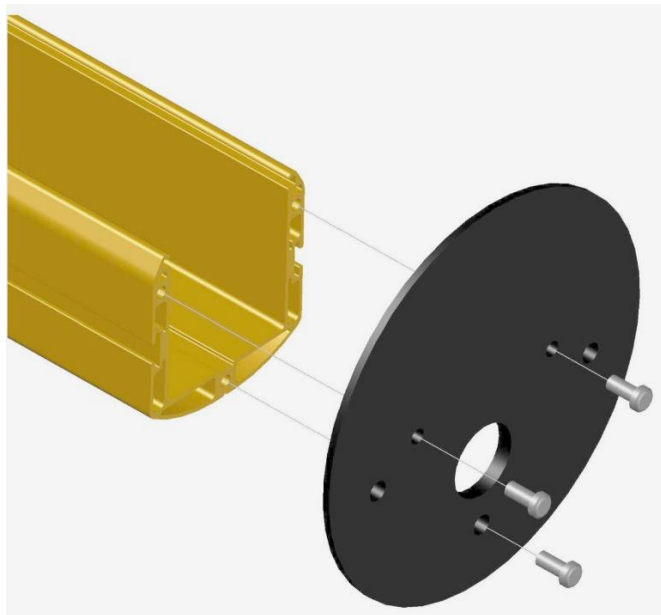

Figure 11
- Fasten the base plate as shown in Figure 11, using the provided screws, T.B.E.I. M6x16.